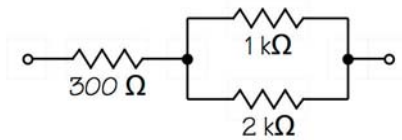

Fig 11–Resistor circuit
- Arrange three resistors in a series/parallel configuration as shown in the schematic of Fig. 11.